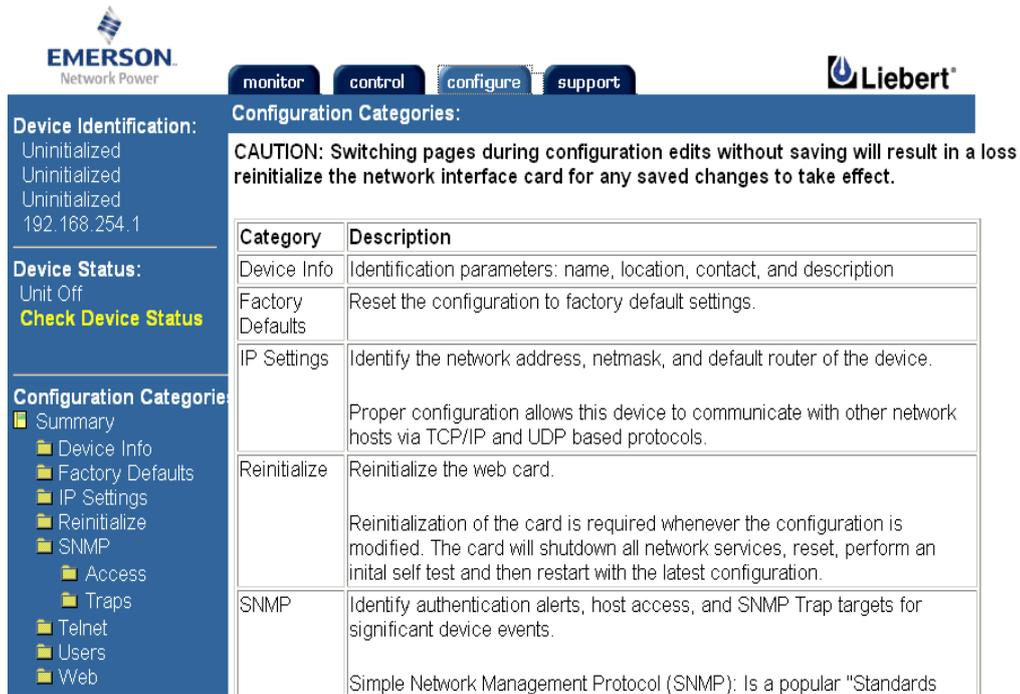

Figure 6-10 Configuration interface
2. Click the **configure** tab to enter the configuration interface, as shown in Figure 6-10.